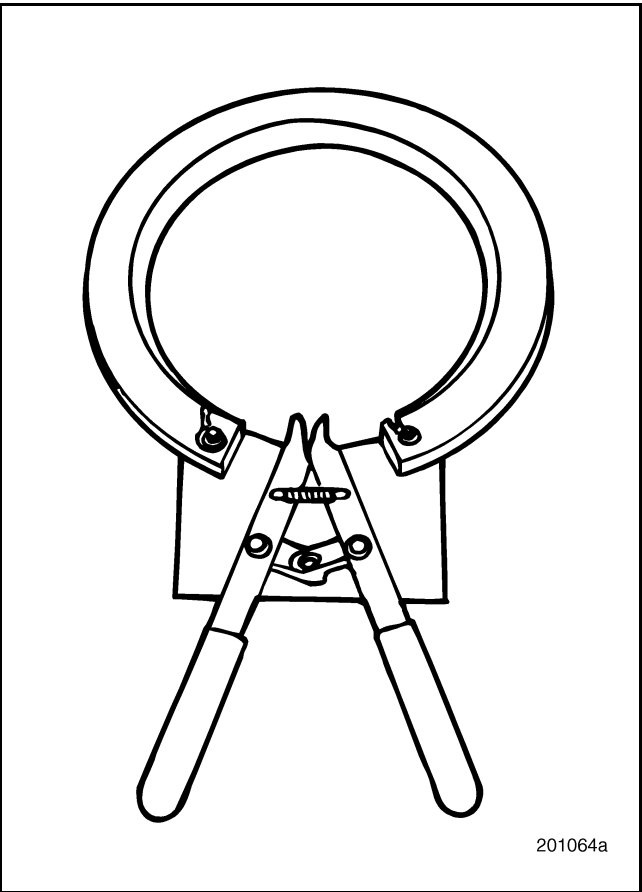

Figure 238 — Piston Ring Expander PT6587
- 1. To prevent distortion, use the proper size piston ring expander, PT6587 (Figure 238), to place the rings in the piston grooves.